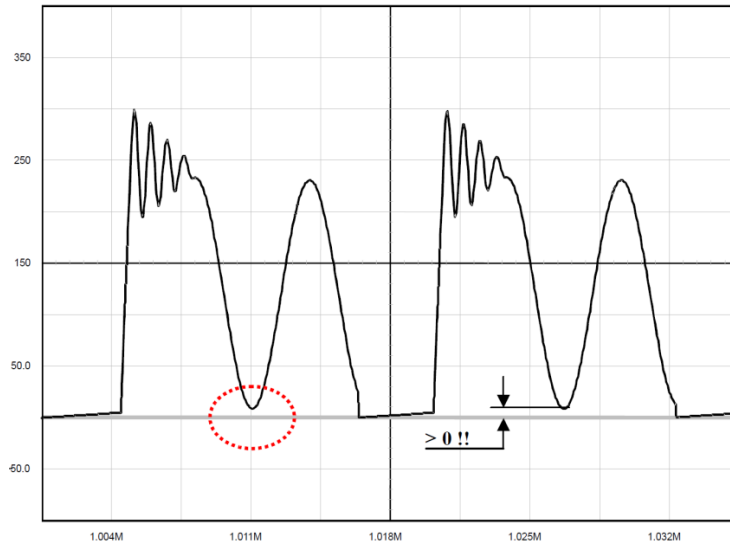

Figure 51. The Drain-Source Wave Shall Always be Positive
1. The lateral MOSFET body-diode shall never be forward biased, either during start-up (because of a large leakage inductance) or in normal operation, depicted by Figure 51. This condition sets the
and defines the amount of ripple we want in CCM, depicted by Figure 51.
Figure 53a: the simple capacitor limits the voltage according to the lateral MOSFET body–diode shall never be forward biased, either during start–up (because of a large leakage inductance) or in normal operation as shown by Figure 51. This condition sets the maximum voltage that can be reflected during  $t_F$ . As a result, the flyback voltage which is reflected on the drain at the switch opening cannot be larger than the input voltage. When selecting components, you must adopt a turn ratio which adheres to the following Equation 6. This option is only valid for low power applications, e.g. below 5 W, otherwise chances exist to destroy the MOSFET. After evaluating the leakage inductance, you can compute C with (Equation 7). Typical values are between 100 pF and up to 470 pF. Large capacitors increase capacitive losses...